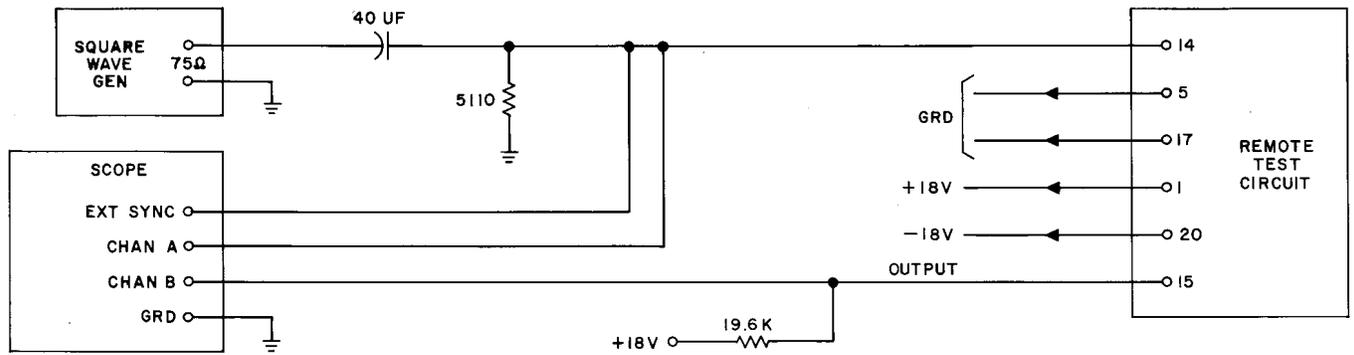

Fig. 54A — Remote Test Circuit Pack, Test Circuit
- (3) Remove the connection between test point 7 and ground. The ohmmeter should indicate an open circuit between terminal 15 and ground. Remove the connection between test point 13 and test point 8.
- (4) Connect the circuit pack to the suggested test circuit shown in Fig. 54A. Set the frequency of the square-wave generator to 10 Hz (± 10 percent).